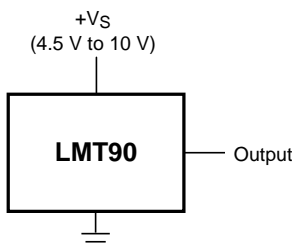

Figure 14. Full-Range Centigrade Temperature Sensor (–40°C to 125°C)
Unless otherwise noted, these specifications apply for  $V_S = 5 V_{DC}$  and  $I_{LOAD} = 0.5 \mu A$ , in the circuit of Figure 14. All limits  $T_A = T_J = 25^\circ C$ , unless otherwise noted.
- (1) Limits are specific to TI's AOQL (Average Outgoing Quality Level).
- (2) Accuracy is defined as the error between the output voltage and  $10 \text{ mV}/^\circ C$  times the device's case temperature plus 500 mV, at specified conditions of voltage, current, and temperature (expressed in °C).
- (3) Non-linearity is defined as the deviation of the output-voltage-versus-temperature curve from the best-fit straight line, over the device's rated temperature range.
- (4) Regulation is measured at constant junction temperature, using pulse testing with a low duty cycle. Changes in output due to heating effects can be computed by multiplying the internal dissipation by the thermal resistance.
- (5) Quiescent current is defined in the circuit of Figure 14.
- (6) For best long-term stability, any precision circuit will give best results if the unit is aged at a warm temperature, and/or temperature cycled for at least 46 hours before long-term life test begins. This is especially true when a small (Surface-Mount) part is wave-soldered; allow time for stress relaxation to occur. The majority of the drift will occur in the first 1000 hours at elevated temperatures. The drift after 1000 hours will not continue at the first 1000 hour rate.